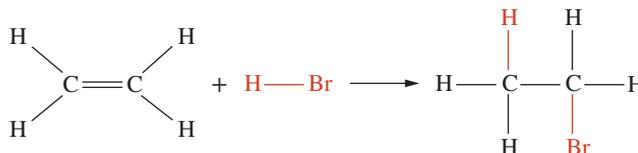

FIGURE 11.2.2 The reaction between ethene and hydrogen bromide. This is an example of an addition reaction between an alkene and a hydrogen halide.
- the atoms of the small molecule adding to the alkene are ‘added across the double bond’, so that one atom or group from the molecule forms a bond to each of the carbon atoms in the double bond of the alkene. This can be seen in the reaction of hydrogen bromide with ethene in Figure 11.2.2.